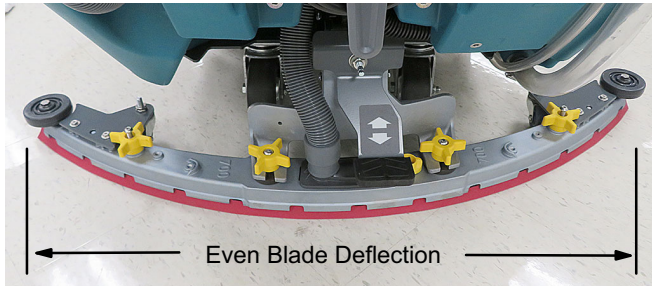

FIG. 9
5. If the squeegee blade does not deflect evenly across the full length of the squeegee, the blade pitch may be out of adjustment (Figure 9).